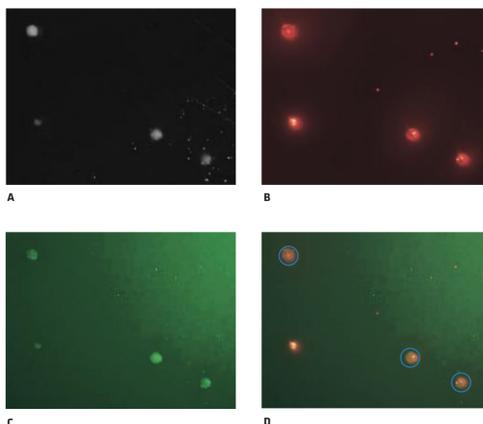

Figure 7. Multiplexing LiveDetect Green with IgG secretion assay.
LiveDetect Green is an acetoxymethyl based cytoplasmic dye that only fluoresces when absorbed into the cytoplasm of living cells, where it is metabolised to its fluorescent form. Cells can be imaged, in the FITC excitation/emission spectra, either as individual cells (in cell imaging technologies or epi-fluorescent microscopy) or as viable colonies of cells (for ClonePix FL colony screening, as shown in figure 7).
- Cell line development: allows clones to be selected based on viability as well as production – figure 7